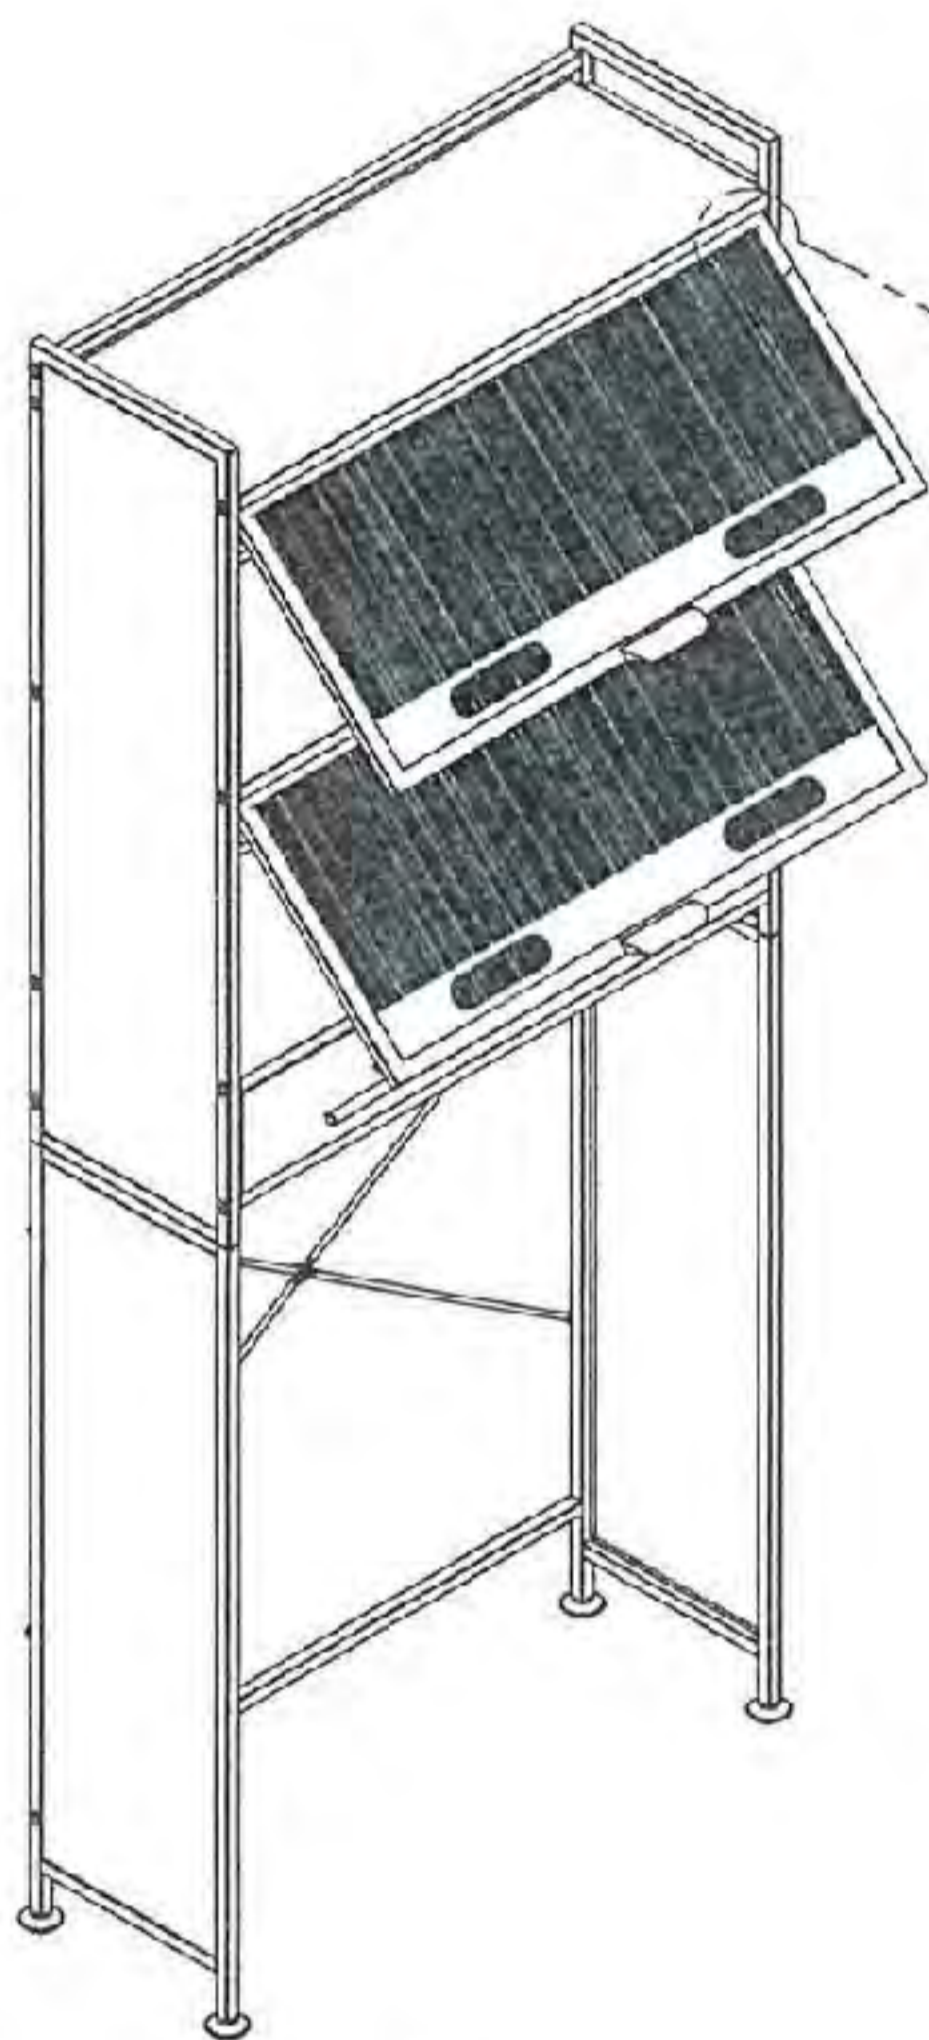

Figure 11
7. Press the buckles on both sides to snap the door frame into the guide rail grooves of the left and right upper and lower side frames, as shown in Figure 11. The door frame is retracted as shown in Figure 12.